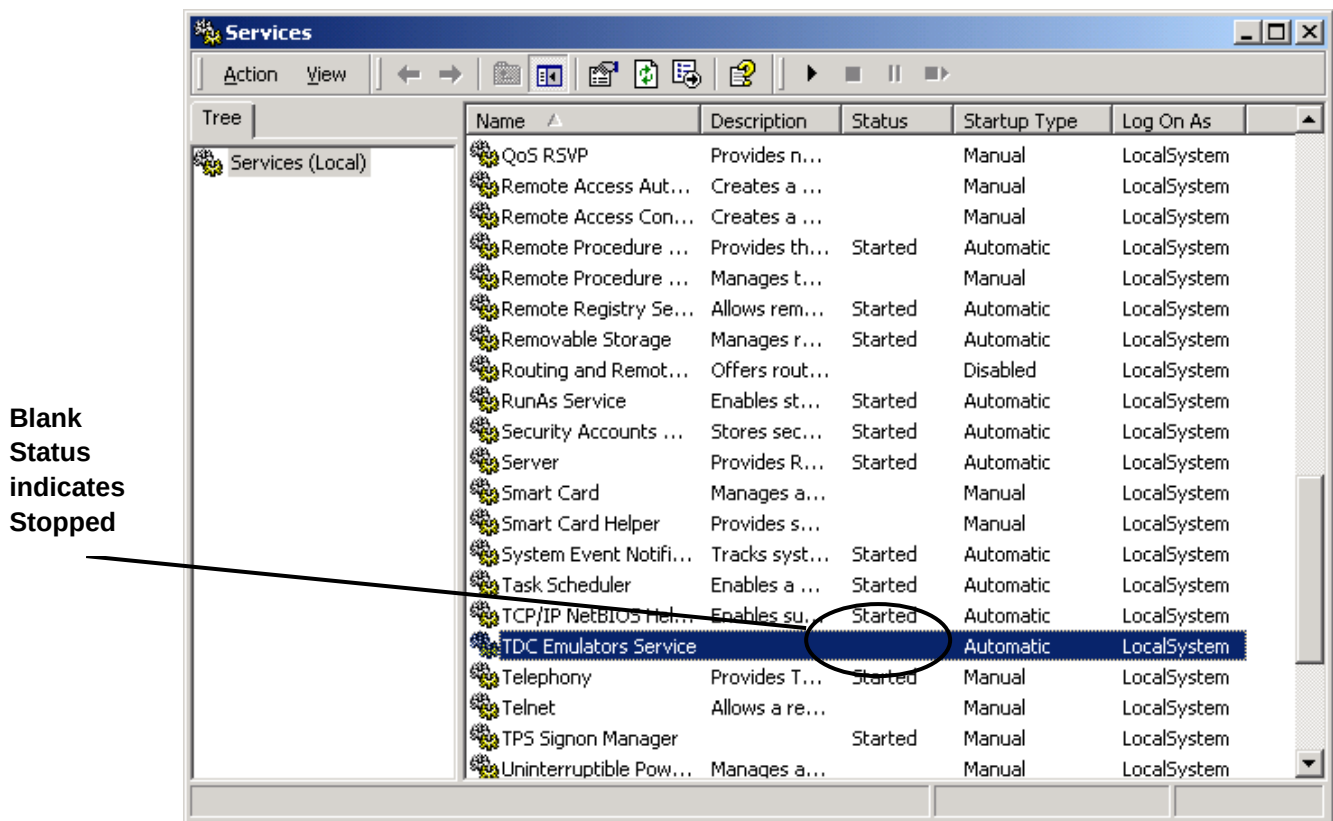

Figure E.2-1 TDC Emulators Service Stopped
E.2.3	Select Services and in the Services window, scroll down until the TDC Emulators Service appears. See Figure E.2-1 below.